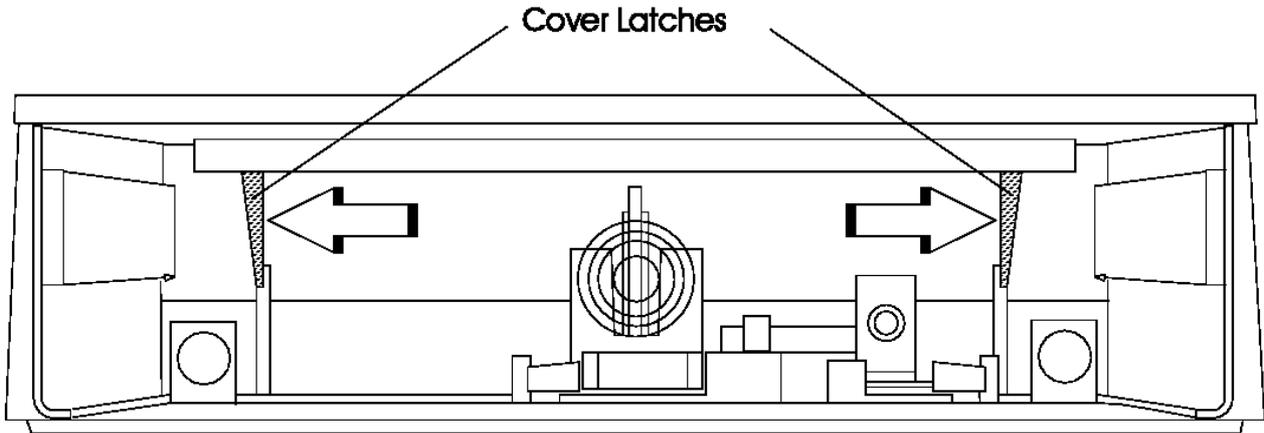

Figure 2-7. Removing and Replacing the Top Cover
6. To separate the top cover from the base, reach in from the front and push the cover latches outward while pushing them to the rear. The cover slides off to the rear. See Figure 2-7.